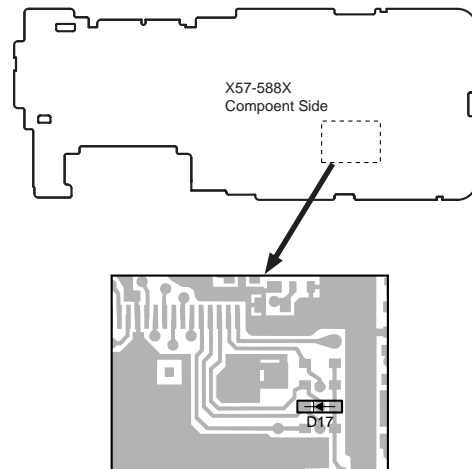

Fig. 3
Remove D17 from the TX-RX unit (Figure 3) (K, K4, E, (N)E models only). Hold down the [Side1]+[●] switches and turn the power switch on.